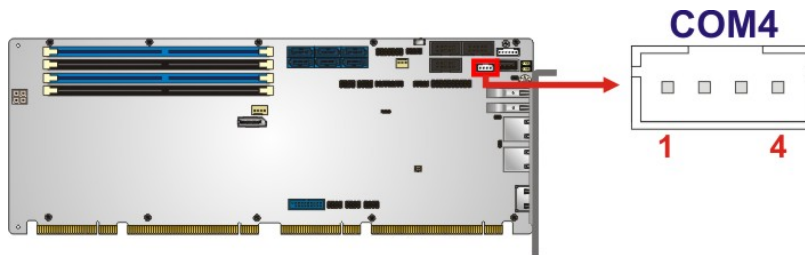

Figure 3-19: RS-422/485 Serial Port Locations
- CN Location:** See **Figure 3-19**